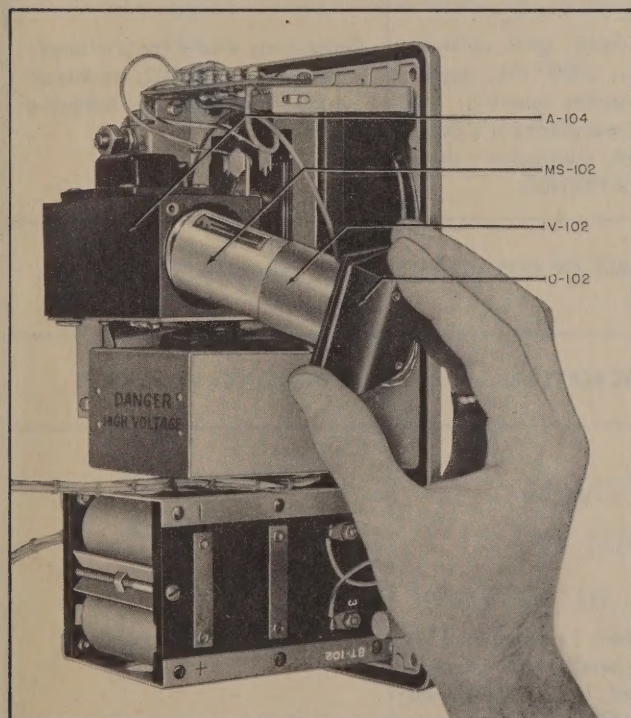
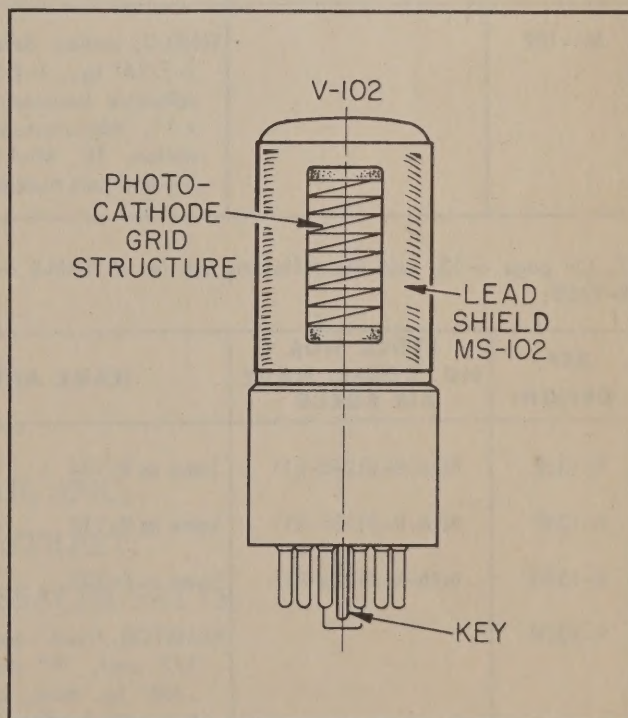

Figure 5-5A
Figure 5-5B
This current is negligible for high gamma ray energies, but may amount to as much as 10% of the total current for gamma rays with energies below 200 KEV., when operating on the 0.5, 5.0 or 50 roentgens-per-hour range. On the 500 roentgens-per-hour range, where the light from phosphor E-110 is attenuated by a factor of 10 to 1, the current produced directly in V-102 by the gamma radiation becomes an even larger part of the total current. To minimize this effect a lead tube shield, MS-102, is provided around V-102. Refer to new figure 5-5A below. Lead shield, MS-102, attenuates gamma radiation, especially below 200 KEV. Thus, the current in V-102 produced directly by the gamma radiation is reduced to a negligible part of the total current on all ranges.
Allow cement to dry. Coat the inside surface of lead tube shield MS-102 in the vicinity of the split seam with a thin even coat of the same cement. Carefully slide lead tube shield MS-102 over the glass envelope of the new photomultiplier tube V-102 and position it so that the rectangular window in lead shield MS-102 is located directly over the photocathode grid structure in photomultiplier tube V-102 as shown in figure 5-5B. Make sure lead tube shield MS-102 fits snugly around the glass of photomultiplier tube V-102, without any wrinkles in the lead. Wipe off any excess cement. Apply a rubberband to hold lead tube shield MS-102 in place and allow cement to dry thoroughly. Remove rubber band.
4. On Page 5-5, substitute new figure 5-5A on T-1 page 1 for figure 5-5. Add figure 5-5B shown on T-1 page 1.